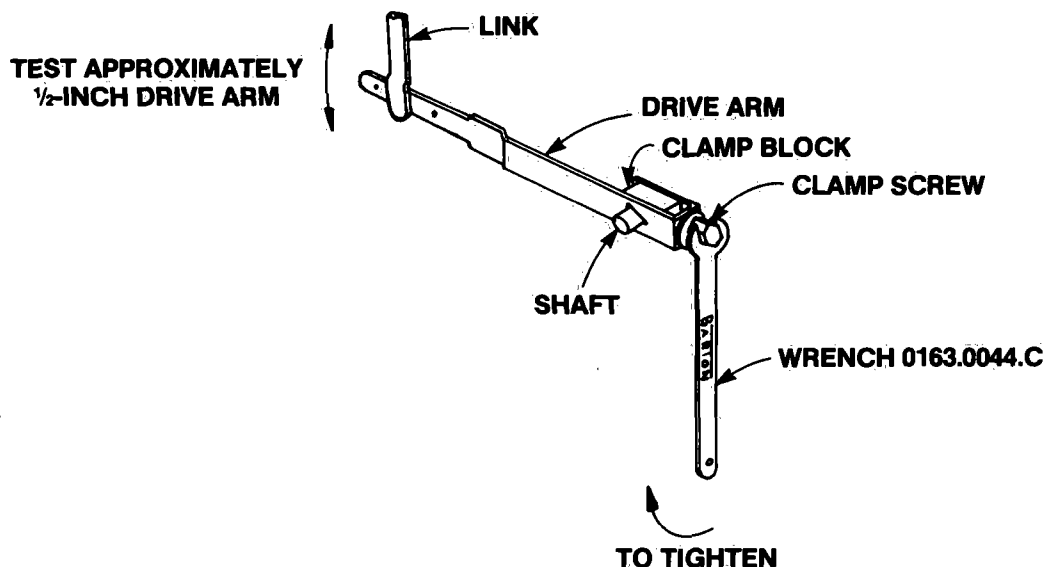

Figure 5-3. Tightening Lock Screws
2. Hold drive arm (see Figure 5-3) at the clamp block by hand or with a $\frac{1}{4}$ -inch open end wrench. If a wrench is used, place it between the torque tube shaft and the lock screw, taking care not to damage the torque tube shaft or bearing. (In the case of the range arm lock screw, place the wrench between the pen shaft and lock screw.)